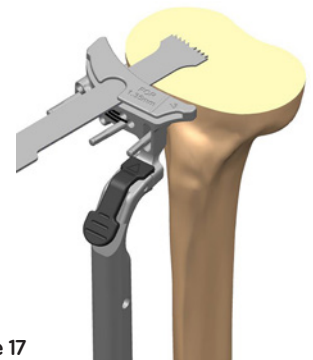

Figure 17
2. Remove the Tibia Stylus. Resect the proximal tibia (Figure 17) and remove the cutting guide.